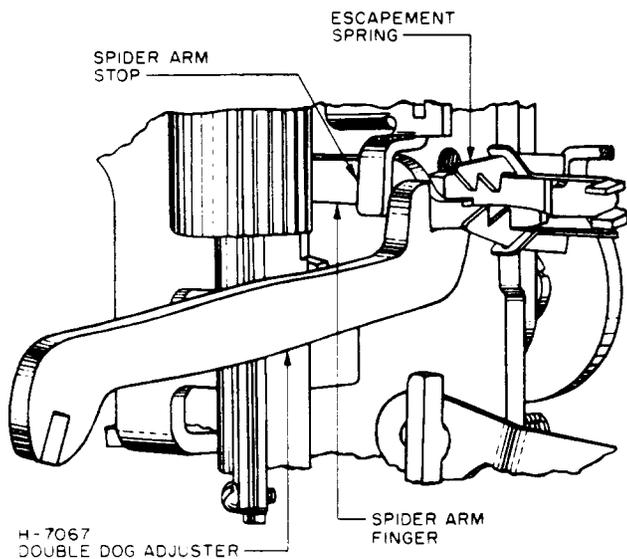

Fig. 11 – Method of Tilting the Spider Arm Finger
(1) If the spider arm finger is not parallel to the frame when in the normal position, adjust it as required with the H-7067 double dog adjuster.
(2) To tilt the spider arm finger, apply the H-7067 double dog adjuster as shown in Fig. 11 and twist the finger slightly by bearing upward on the tool adjuster.